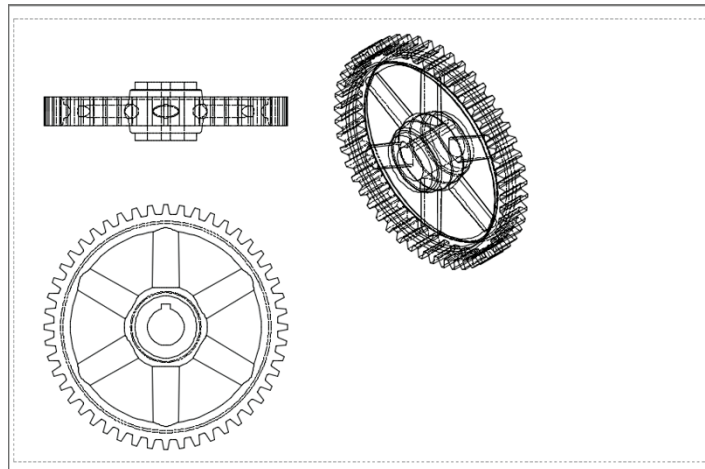

FIGURE 18.22 Locating projected views of the base drawing on the layout
7. Click a third point at a 45-degree angle with respect to the base plan to locate an isometric projection, and press Enter to end the command. The drawings display in wireframe view showing hidden lines with a dashed linetype (see Figure 18.22).